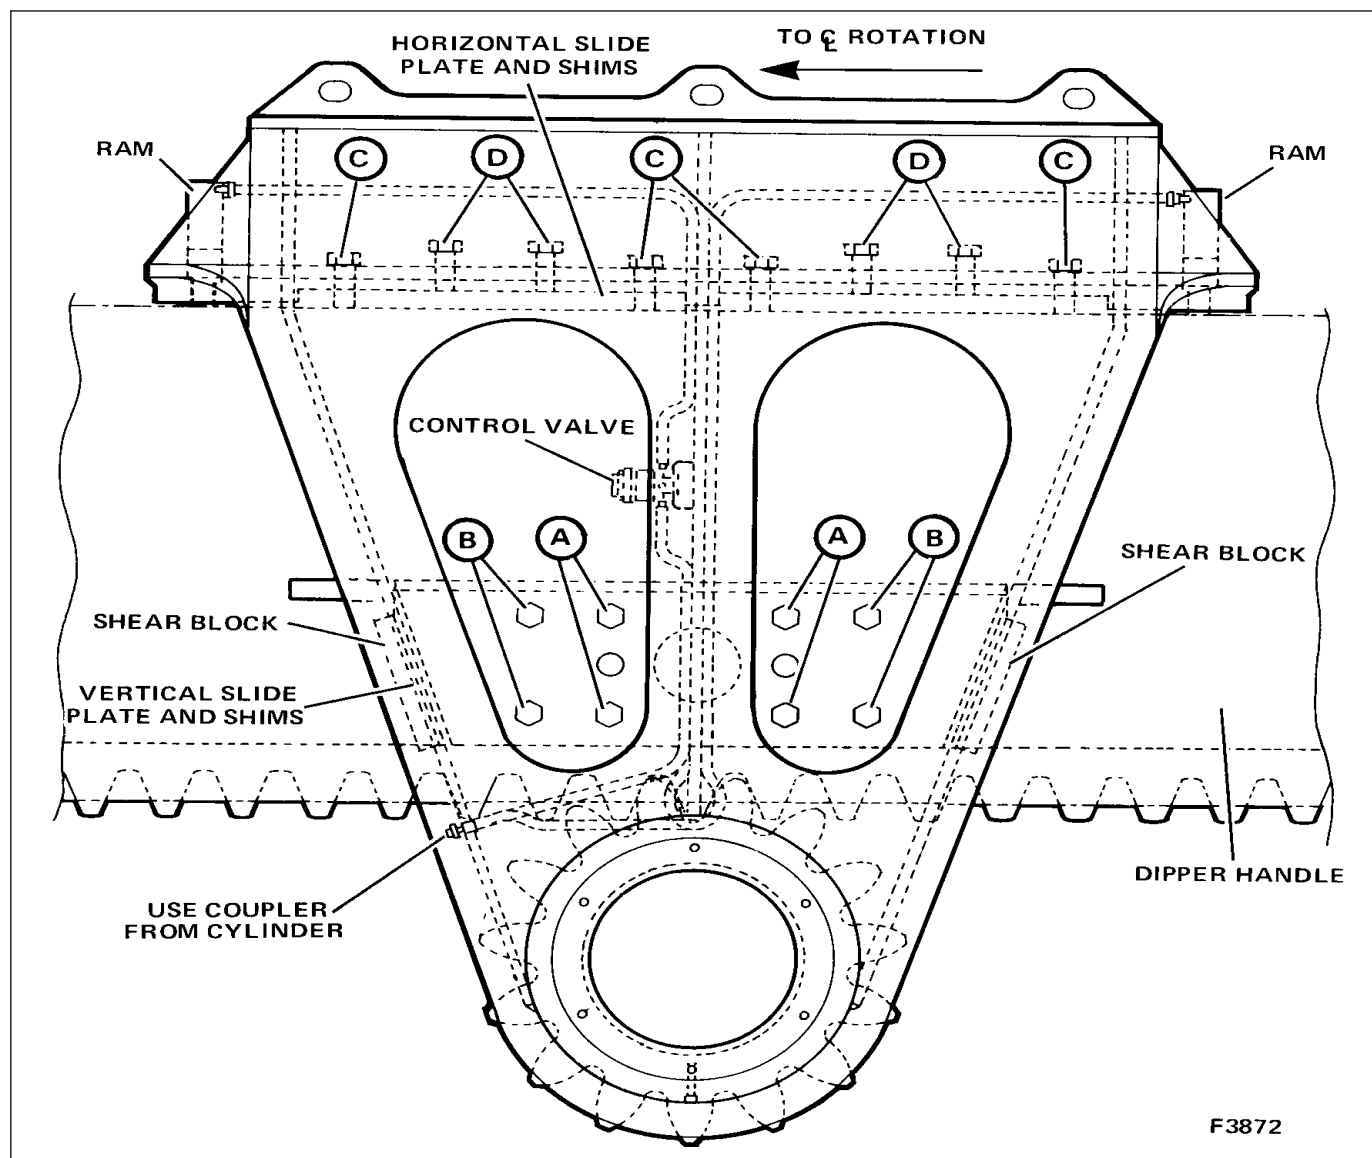

Figure 6-11. Saddle Block Adjustment
Perform the dipper handle to saddle block/shipper shaft pinion adjustment as follows. Refer to Figure 6-11 and Figure 6-20.
1. Refer to Figure 6-11 and connect a hand operated hydraulic pump to the control valve in the saddle block as follows:
3. Adjust the upper (horizontal) saddle block slide plates as follows (see Figure 6-11):
B. Loosen four capscrews (C).
- A. Refer to Figure 6-11 and loosen four capscrews (B). Back off on the upper two of these capscrews until they are flush with the saddle block plate.
- B. Screw the four jackscrews (A) against the slide plate until the slide plate contacts stops on the shear blocks or contacts the side of the handle leg.